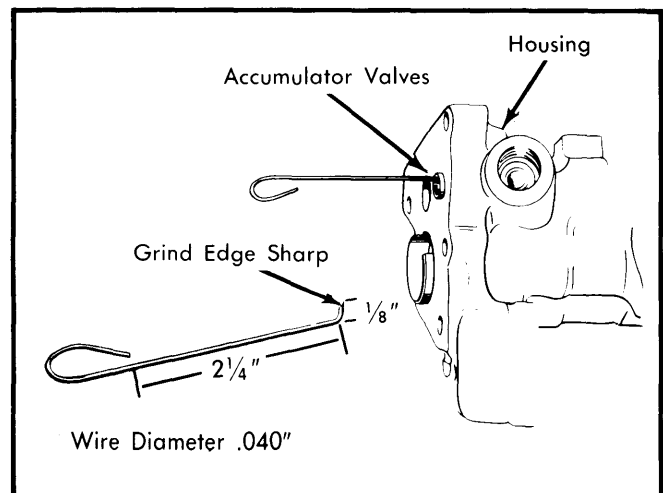

Fig. 5 Removing Accumulator Valves
7) Slowly back off clamp until tension on accumulator is released, then remove accumulator and "O" ring. If accumulator valve is faulty, remove valve using a small diameter wire tool. See Fig. 5. Remove the dump valve by catching the tool under the pin guide near the center of the valve, then remove 2 function valve and seat.